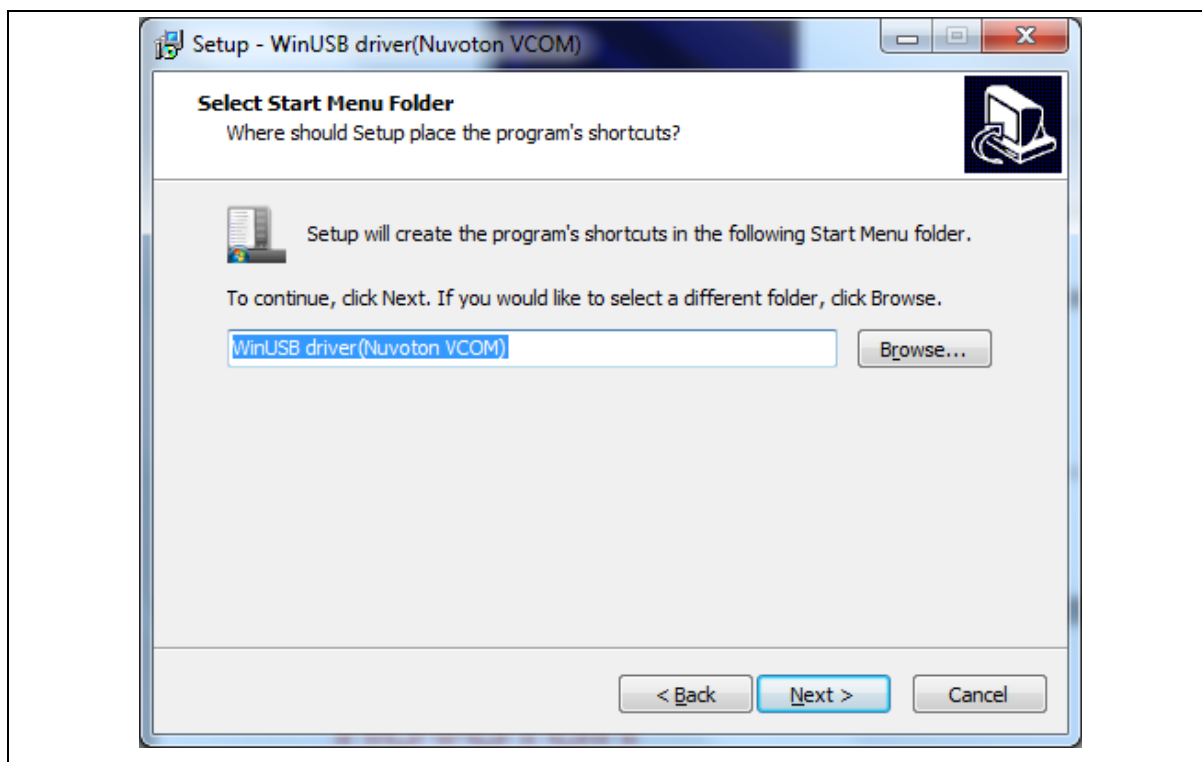

Figure 2-4 WinUSB4NuVCOM Driver Setup (4)
Step 4: Click “**Next**” (Figure 2-4).